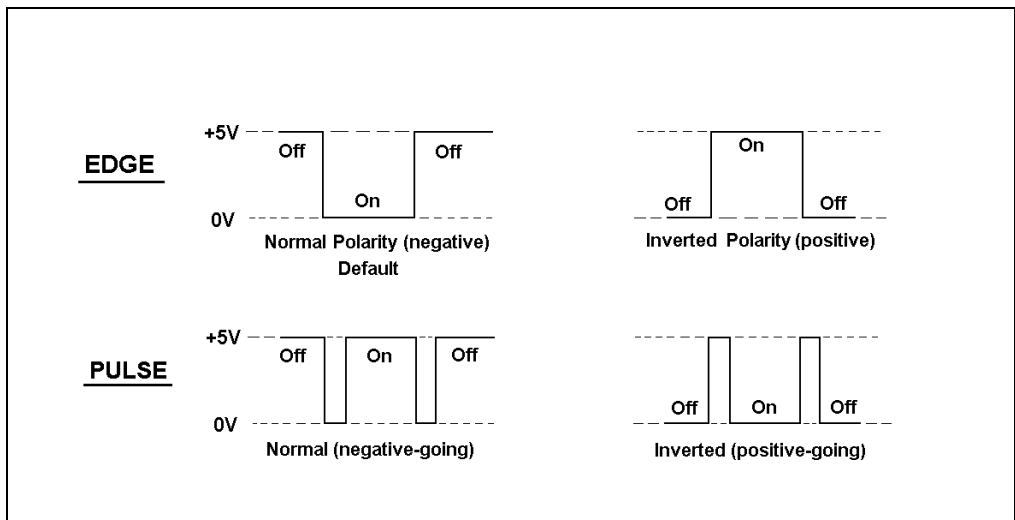

Figure D-4. TTL and Relay Input Signal Modes
- *Normal Edge*: In normal edge operation, the negative (falling) edge of a signal turns on the function and the positive (rising) edge turns off the function (see Figure D-4). For example, a negative edge sent to TTL1 turns on the pump motor and a positive edge turns off the motor.